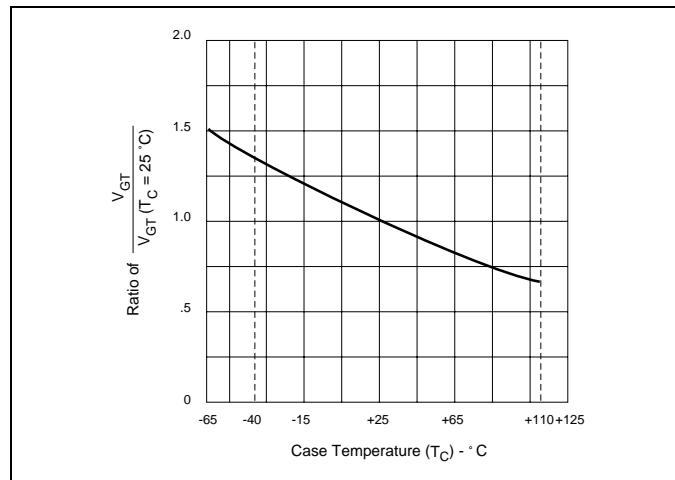

Figure E1.6 Normalized DC Gate Trigger Voltage for All Quadrants versus Case Temperature
- See Figure E1.6 for  $V_{GT}$  versus  $T_C$ .